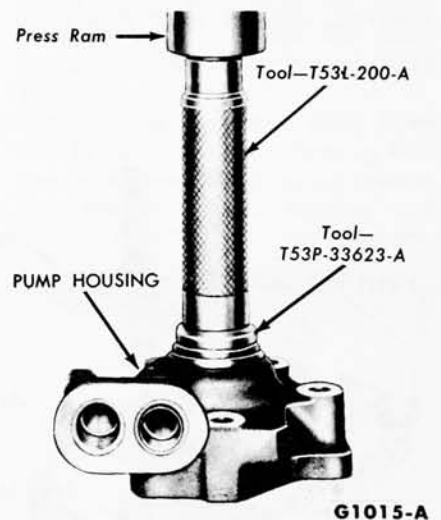

FIG. 36—Installing Shaft Seal
3. Press the seal into the housing (Fig. 36), until it seats firmly and evenly against the shoulder in the bore.